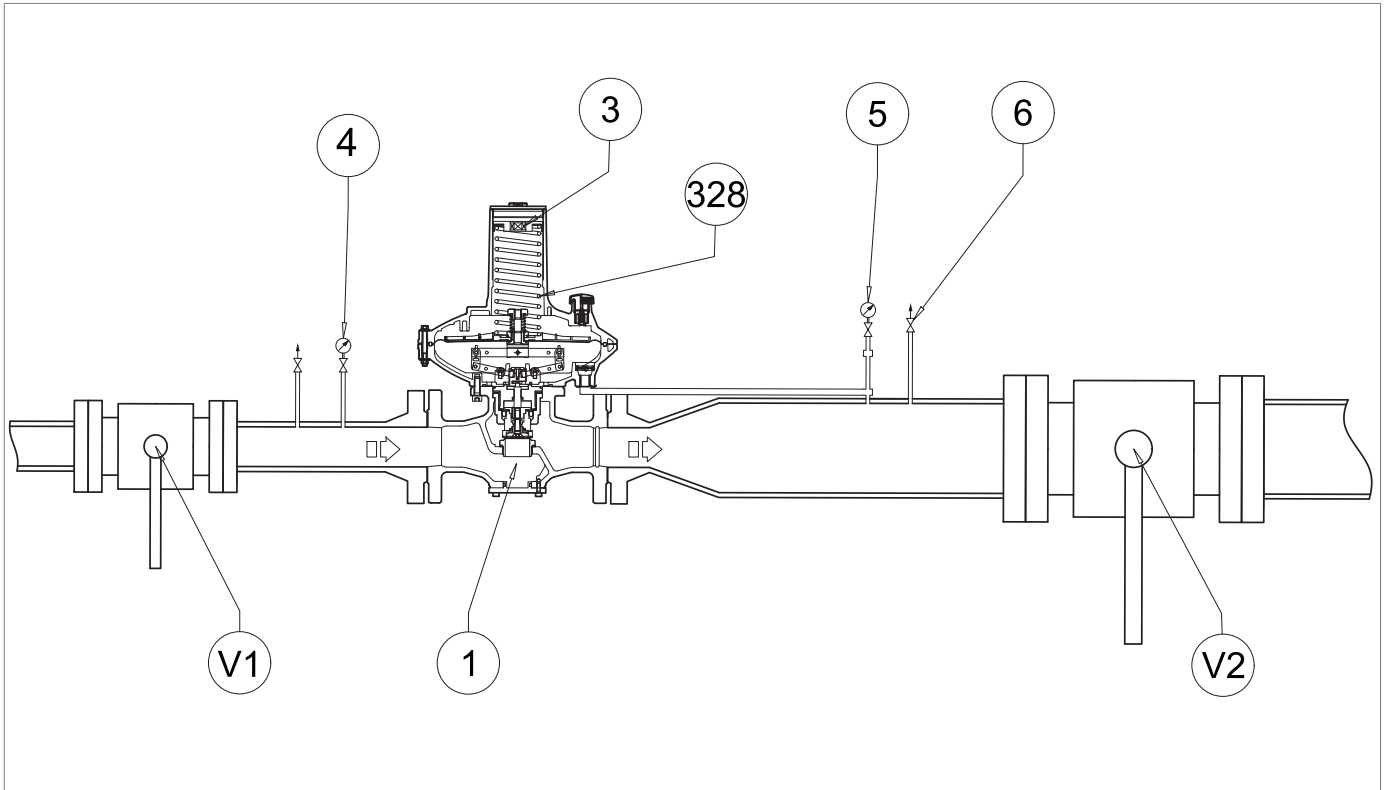
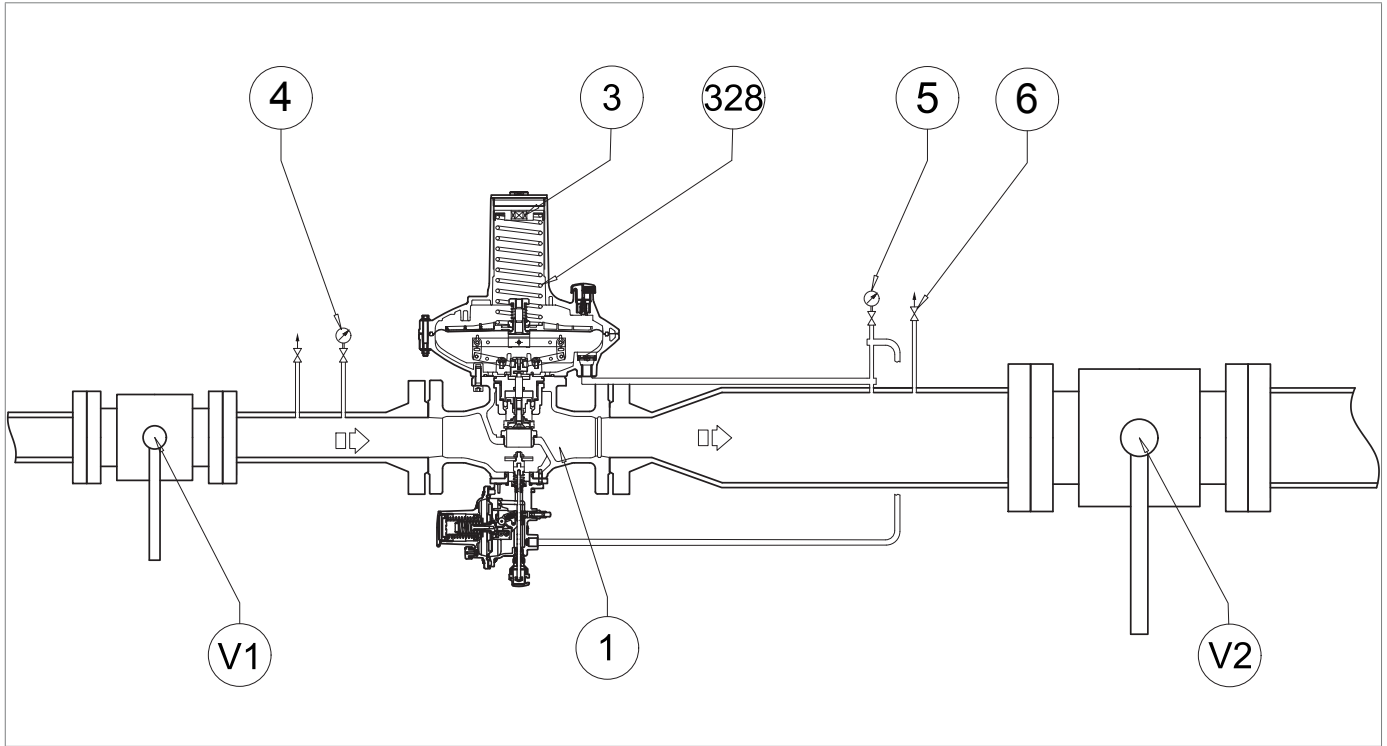
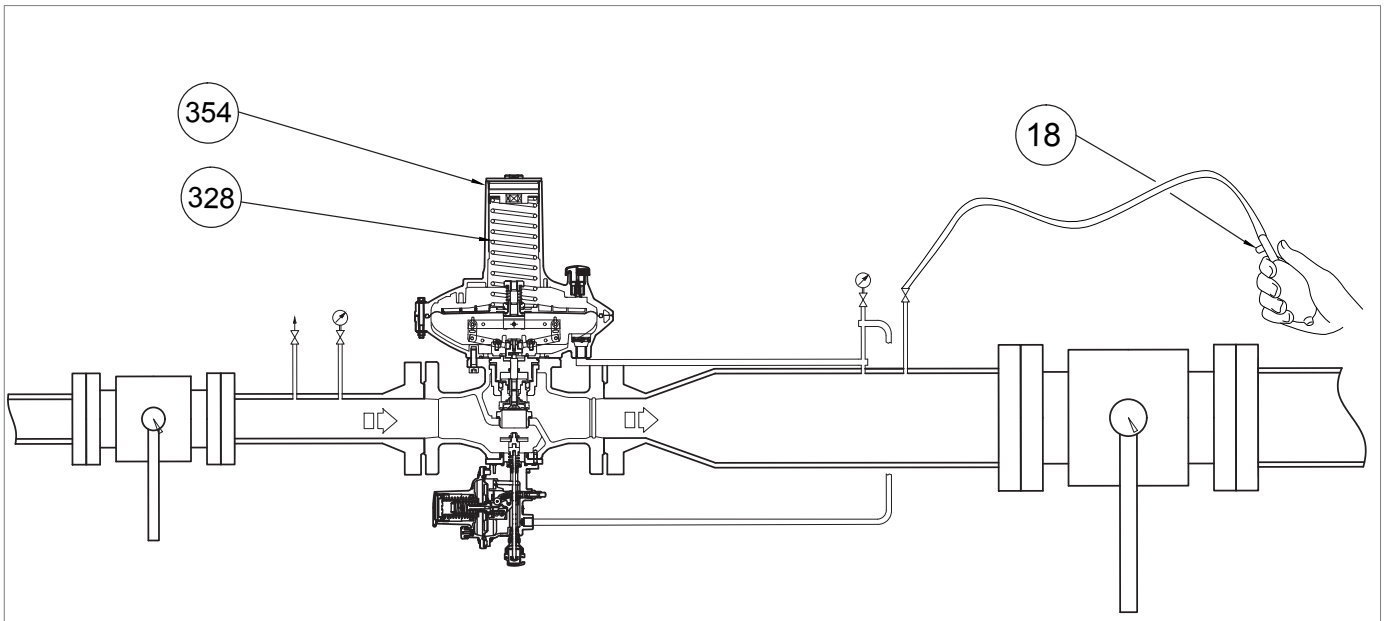

Fig. 8.16. Commissioning the DIVAL 600 regulator
Fig. 8.19. Commissioning of the DIVAL 600 regulator with LA slam-shut valve
Fig. 8.21. Pressurising with external source for incorporated LA slam-shut valve
For the following procedure, please refer to Figure 8.19 in par. "8.7.1 - Internal tightness check of LA slam-shut valve":
1	<p>Increase the downstream pressure to the tripping value of the slam-shut valve, connecting an external pressure source to the bleed cock (fig. 8.16, ref. 6) placed on the downstream pipe, making sure to open an additional bleed cock (fig. 8.21, ref. 18).</p> <div style="border: 1px solid black; padding: 5px;"> <p>! NOTICE!</p> <p>Check the pressure referring to the downstream pressure gauge (fig. 8.16, ref. 5).</p> <p>If the slam-shut valve:</p> <ul style="list-style-type: none"> • trips before the expected pressure value: screw in (clockwise) the adjustment ring nut (13) so as to further compress the spring (11); • does not trip at the expected pressure value: unscrew (anti-clockwise) the adjustment ring nut (13) so as to relieve the spring (11). </div>
3	Close the additional bleed cock (fig. 8.21, ref. 18).
6	Disconnect the external pressure source from the bleed cock (fig. 8.16, ref. 6).
3	<p>If necessary, remove the closing cap (fig. 8.21, ref. 354) together with the adjustment ring nut and remove the regulation spring (fig. 8.21, ref. 328).</p> <div style="border: 1px solid black; padding: 5px;"> <p>! NOTICE!</p> <p>Check the tripping pressure value of the slam-shut valve indicated on the downstream pressure gauge (fig. 8.19, ref. 5).</p> </div>
5	<p>After having checked that the slam-shut valve trips at the preset value, proceed as follows:</p> <ol style="list-style-type: none"> Close the air vent valve (fig. 8.16, ref. 6) Position the regulation spring (fig. 8.21, ref. 328), the closing cap (fig. 8.21, ref. 354), and adjustment ring nut (fig. 8.16, ref. 3) Slowly open the upstream shut-off valve (V1) until the downstream pressure value (Pd) reaches the calibration value of the regulator, referring to the downstream pressure gauge (fig. 8.16, ref. 5) Close the upstream shut-off valve (V1) Slowly and partially open the air vent valve (fig. 8.16, ref. 6) to decrease the downstream pressure referring to the downstream pressure gauge (fig. 8.16, ref. 5) until it reaches the minimum pressure tripping value Check the minimum pressure spring for proper calibration by repeating steps 2-3-4 at least three times Calibrate the main regulator referring to par. "8.5 - Regulator commissioning procedure"